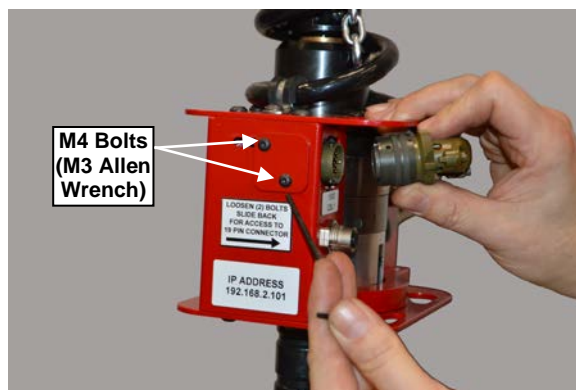

Figure 2-8
- 6) Loosen the (2) two M4 screws holding the 19-pin receptacle and slide it out of the control handle's housing. (Refer to Figure 2-8)